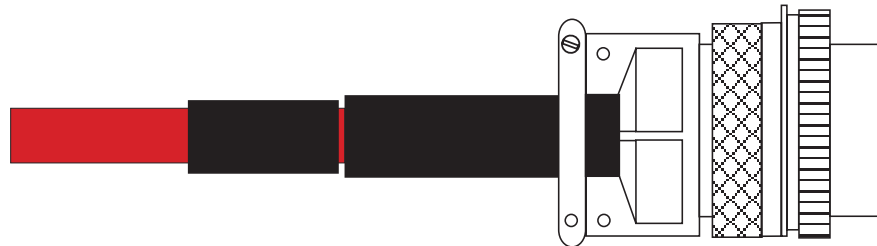

Figure 2: Completed Serial Connector
3. Slide small rubber boot into larger rubber booth for both connectors and finish assembly of the male conductor (see Figure 2).